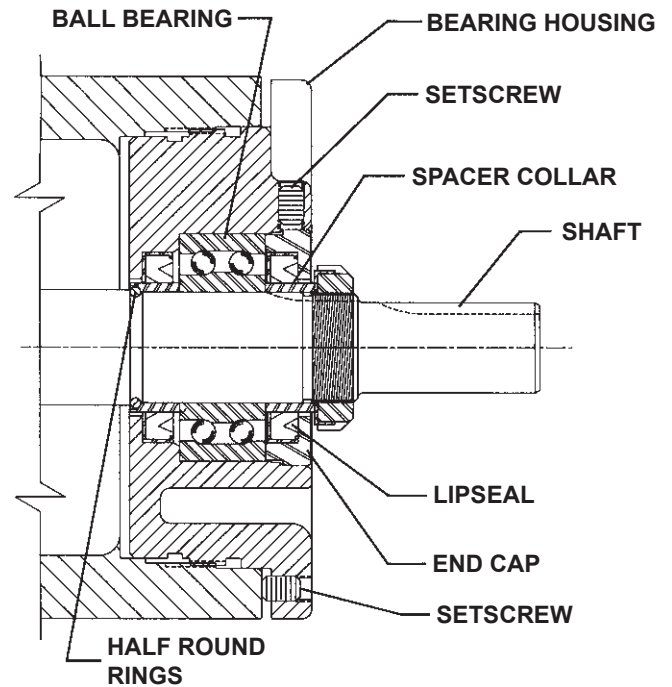

FIGURE 9
4. Loosen two setscrews in the face of the bearing housing and remove the bearing housing assembly from the bracket. **Refer to Figure 9.**